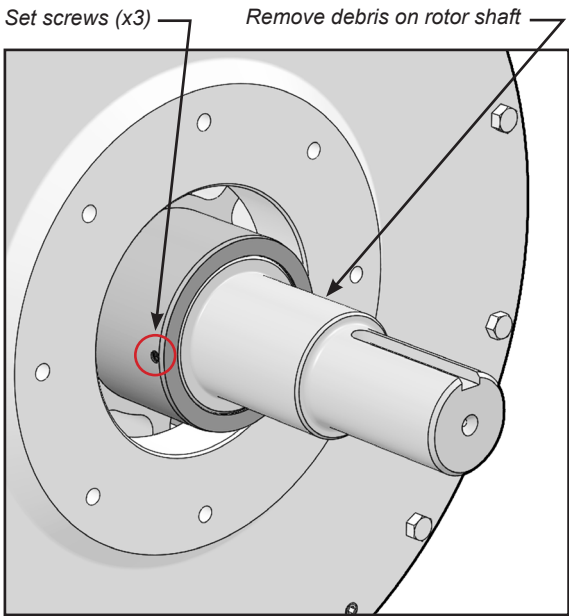

FIGURE 12
- 11. Remove any accumulated debris from rotor shaft using emery cloth (Figure 12).
13. Prepare for removal of bushing by fully removing the three set screws previously loosened on the bushing (Figure 12).
21. Tighten the three setscrews located on the bushing; apply locite if readily available (Figure 12).